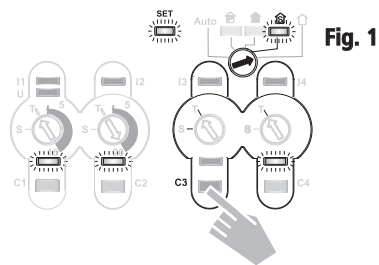

Fig. 1
Example: Presence simulation, see Fig. 1 below.
2. Briefly press the manual key for the channel to be changed until the control LED has gone out (see Fig.1, channel C3).